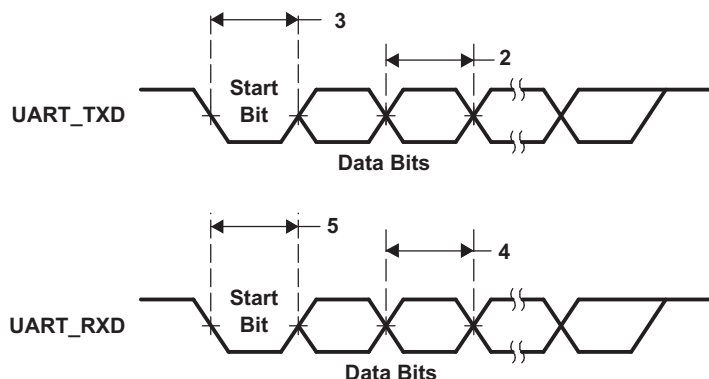

Figure 5-28. UART Transmit/Receive Timing
Table 5-31. Timing Requirements for UART Receive(1)(2) (see Figure 5-28)
(1) U = UART baud time = 1/programmed baud rate.
(2) These parametric values are measured at DVDDIO = 3.3 V, 2.75 V, and 2.5 V
Table 5-32. Switching Characteristics Over Recommended Operating Conditions for UART Transmit(1) (2) (see Figure 5-28)